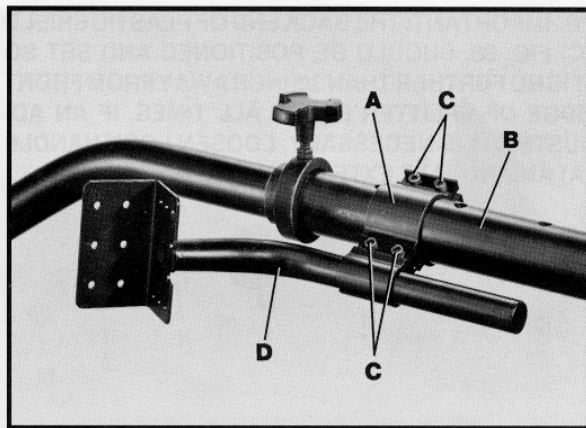

Fig. 42
1. Assemble the two-piece switch arm clamp (A) Fig. 42, at the desired position around the support arm (B), and fasten with 4 one inch-long socket head cap screws (C) and hex nuts. Do not completely tighten hardware at this time.
2. Slide switch bracket extension arm (D) Fig. 42, through clamp assembly (A) and tighten four screws (C).